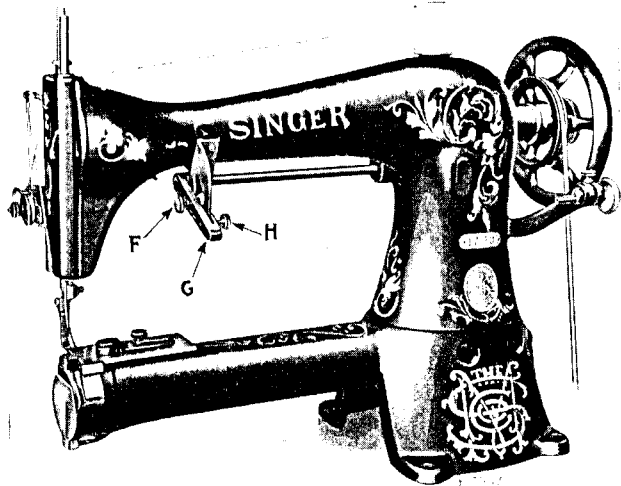

FIG. 12. MACHINE 17-30
(H, Fig. 12) and moving the lever (G, Fig. 12) up or down in the bracket at the front of the machine.
Loosen the thumb screw (F, Fig. 12) in the slotted lever (G, Fig. 12) and move it forward or backward until the desired length of stitch is obtained, then securely tighten the thumb screw (F).